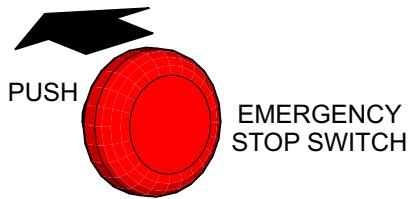

Figure 22. Emergency Stop Switch (Push)
2. Push the **EMERGENCY STOP** switch (Figure 22).